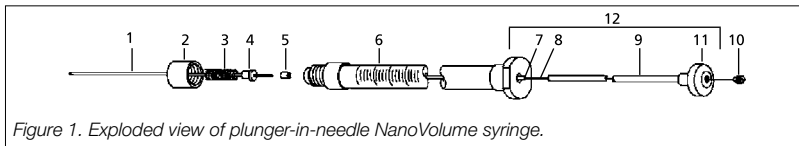

Figure 1. Exploded view of plunger-in-needle NanoVolume syringe.
(Refer to figure 1, 2 and 3)
- As illustrated in figure 1, a small PTFE seal (5) is located inside the glass barrel around the plunger and located at the back end of the needle. This seal should not require replacement in general